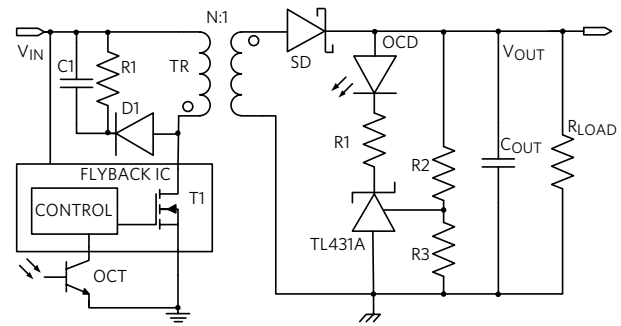

Figure 25. Flyback with Optocoupler
Using galvanically isolated transformers with PWM control is the most common architecture for an isolated DC-DC power supply. The flyback converter is the classic architecture that produces an isolated output. **Figure 25** shows the traditional implementation. During the "ON" time of the transistor  $T_1$ , the voltage across the primary winding is positive (equal to  $V_{IN}$ ) and the voltage across the secondary winding is negative. Consequently, the Schottky diode (SD) prevents energy from passing to the output and the energy is stored in the transformer. During the "OFF" time of  $T_1$ , the primary winding inverts its voltage, which allows the energy to be released to the output. The control loop is quite complex, often requiring a shunt regulator (TL431A) on the secondary to regulate the voltage at the output. An optocoupler and error amplifier on the secondary-side of the transformer provide the isolated feedback signal needed to close the PWM control loop to the primary side.